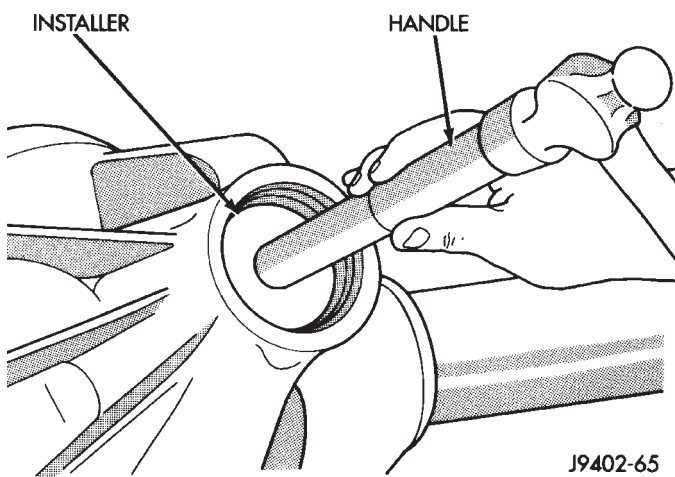

Fig. 34 Pinion Outer Bearing Cup Installation
(3) Apply Mopar® Door Ease, or equivalent, stick lubricant to outside surface of front pinion bearing cup. Install the bearing cup with Installer D-144 and Handle C-4171 (Fig. 34).
(4) Install front pinion bearing, and oil slinger, if equipped.